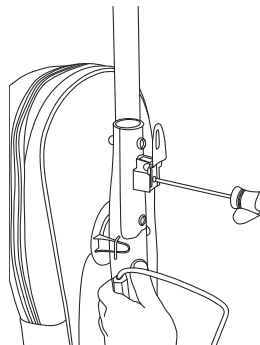

Fig. 4
1. Loosen, but do not remove, the screw holding the upper cord hook (Fig. 4).